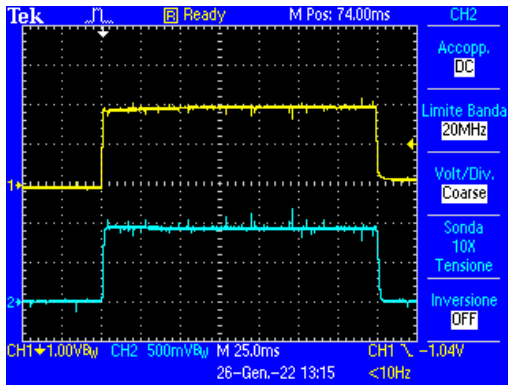

Fig. 3a
- Check that the resulting values are correct respect values in the table below and then check the wave-length by comparing it to the typical wave-lengths shown in fig. 3a (60 kV) and 3b (100 kV).